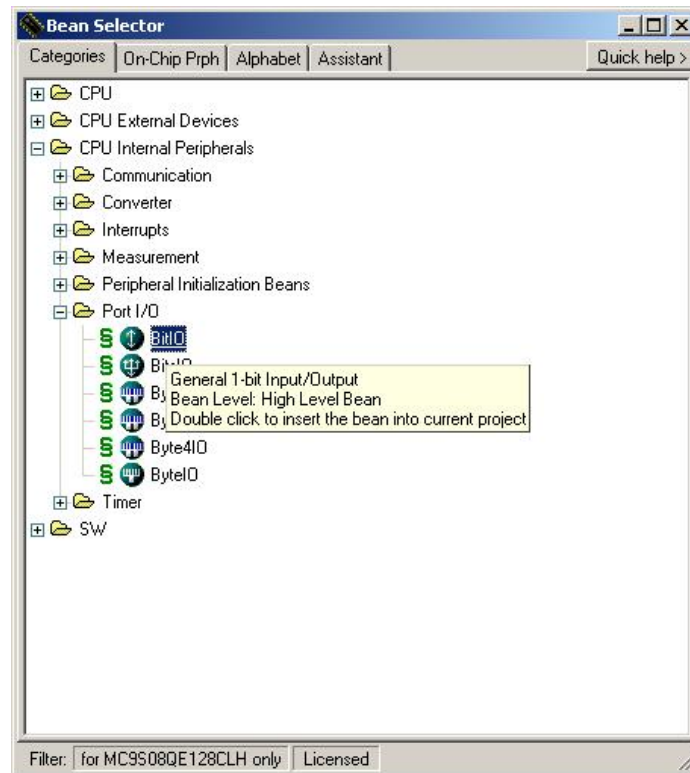

Figure 18. Bean Selector Window - BitIO Bean
4. Inside the Port I/O folder are all the beans related to the I/O (Figure 18).